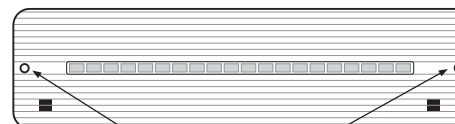

Fig 1 Remove screws
- Remove two screws from the top of fitting (see Fig 1) to remove diffuser